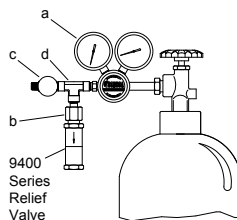

Figure 2
2. To adjust the cracking pressure, a field test bench maybe constructed using the following parts as shown in Figure 2 below: